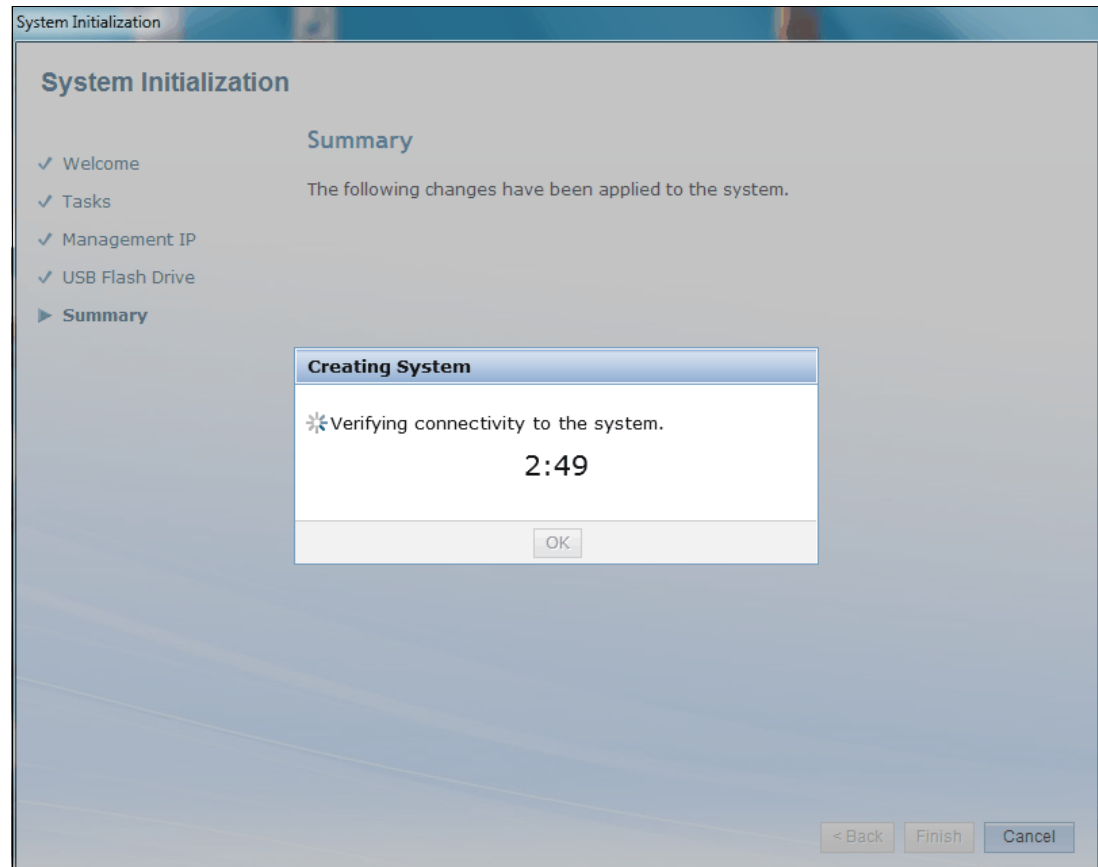
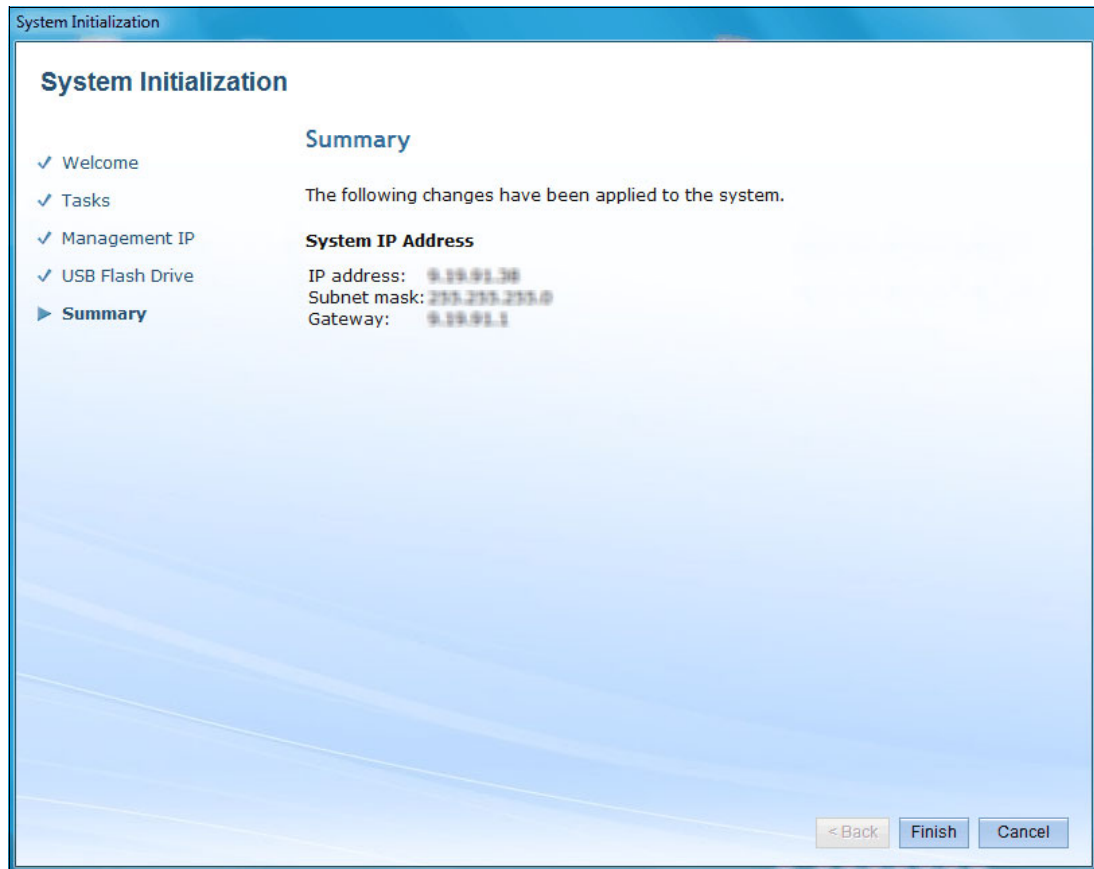

Figure 4-13 *InitTool: Verify connectivity*
Figure 4-14 InitTool Summary
6. Use the InitTool final window to review the results of the initialization (a summary window is shown in Figure 4-13 on page 84 and Figure 4-14 on page 85).
Initialization now checks connectivity to the IBM FlashSystem 900 (Figure 4-13).
When connectivity is successful, the Summary window opens (Figure 4-14 on page 85).